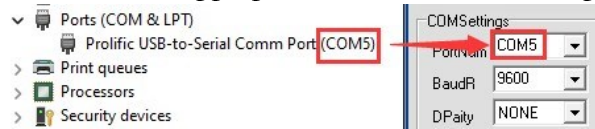

Fig 9.4.2 Serial port number identification
- Confirm that the serial port listed under **Ports** corresponds to the port selected in the serial debugging assistant, as shown in Figure 9.4.2.